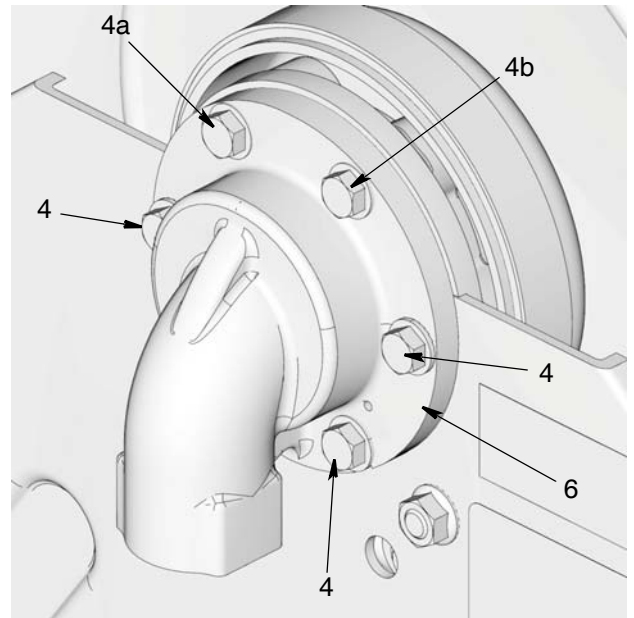

FIG. 3
For the following steps, refer to FIG. 3.
5. First install the top 2 bolts (4a and 4b) as shown in FIG. 3. Tighten bolts just enough to hold everything in place.
6. Then install the remaining bolts (4). Hand tighten and then torque all bolts to 25 to 35 ft. lbs (33.9 to 47.45 N•m).